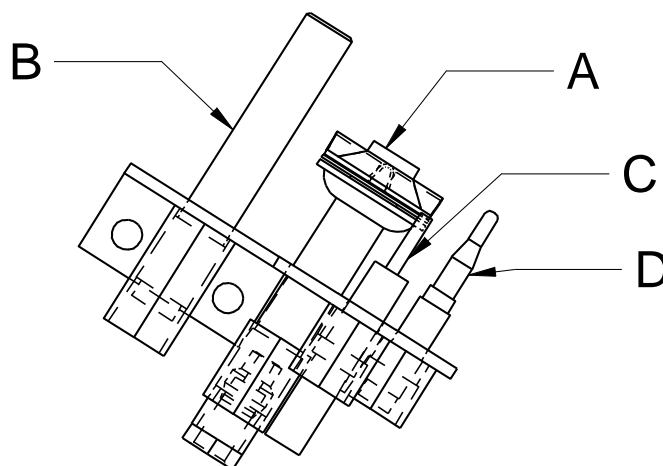

Fig 6
Separating Pilot assembly (Fig 6)
3. Undo pilot gas feed pipe from pilot assembly **(Fig 6,A)**.
Thermocouple (Fig 6, D)
Thermopile (Fig 6, B)
Electrode (Fig 6, C)